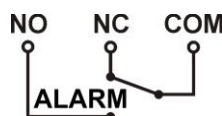

Fig. 5. Electrical diagram of the ALARM collective output of failure.
**CAUTION!** In Fig. 5 the set of contacts shows a potential-free status of the relay, which corresponds to power supply failure.